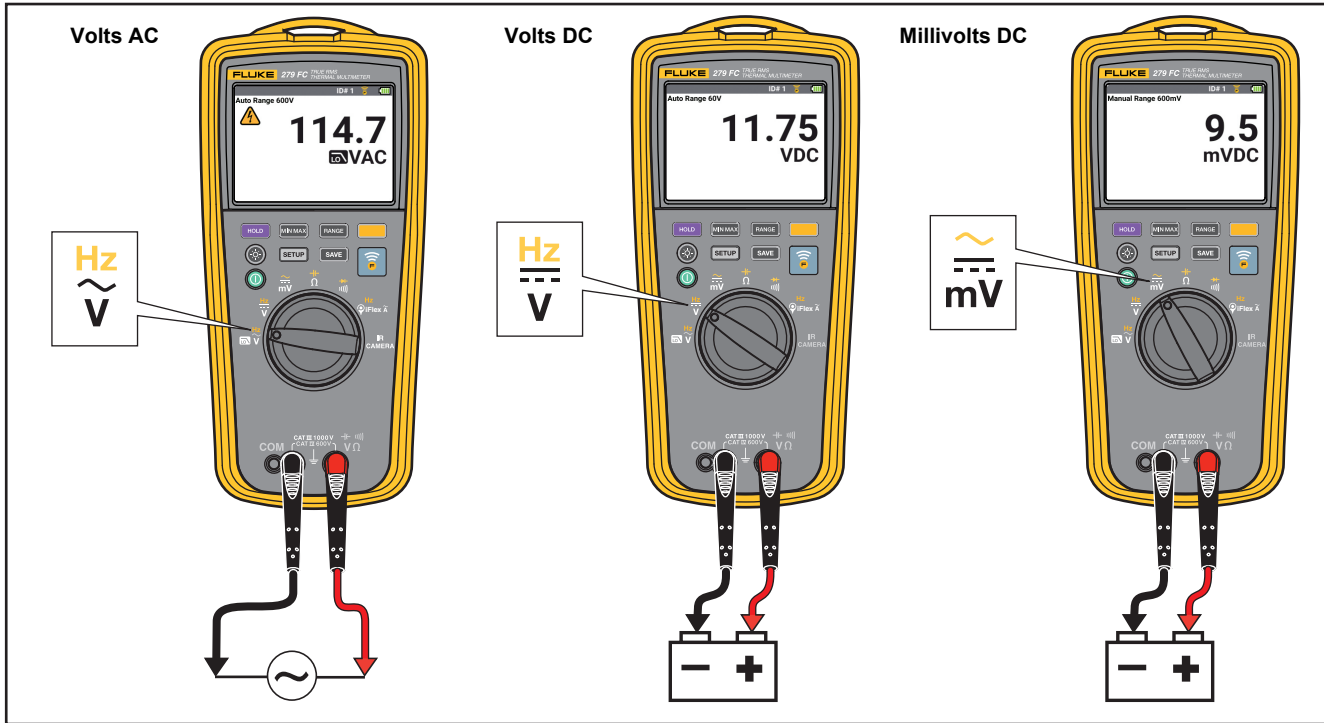

Figure 4. AC and DC Voltage Measurements
- AC and DC Voltage Measurements. See Figure 4.
1. Turn the rotary dial to $\tilde{\sim}$. See Figure 4.